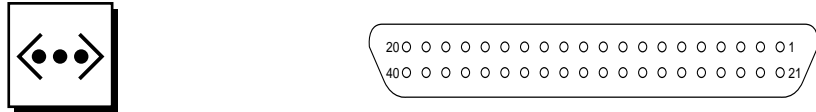

FIGURE 1-5 40-Pin Miniature-D MII Connector
- FIGURE 1-5 40-Pin Miniature-D MII Connector 1-5